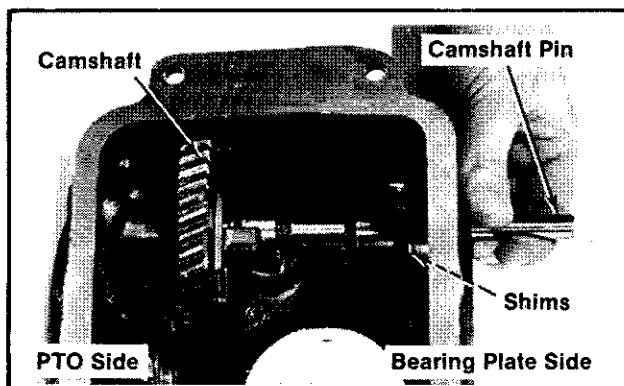

Figure 10A-33. Removing Camshaft.
3. Mark the tappets as being intake or exhaust. Remove the tappets from crankcase. Refer to Figure 10A-34.